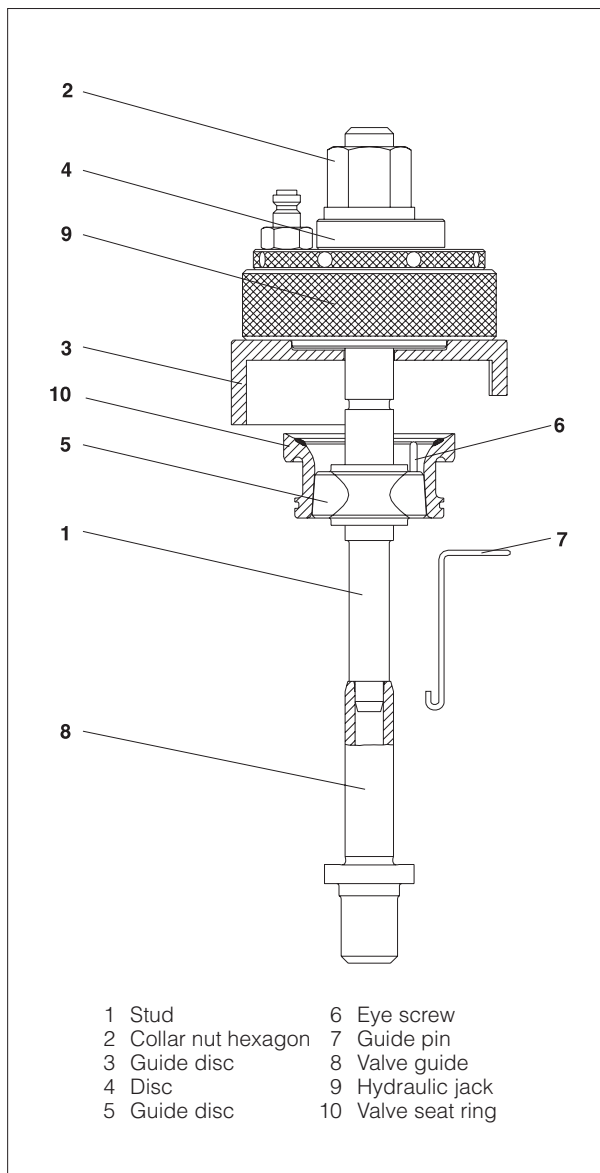

Fig 1.
Dismounting of a valve seat ring is carried out by means of a special extractor tool set comprising the components, *see fig 1*.
2) The guide disc (3) is positioned so that it bears against the bottom of the cylinder head, and the hydraulic jack is clamped with the disc (4) and the collar nut hexagon (2), *see fig 1*. The hydraulic jack is the one used for main bearing caps.